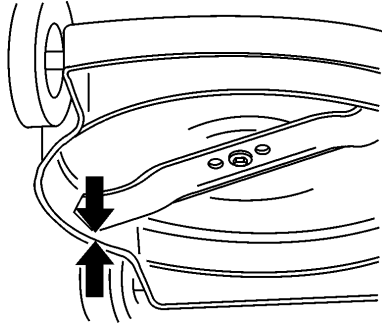

Figure 27
2. Measure the distance from the bottom edge of the mower housing to the blade tip (Fig. 27). Rotate the blade 180° and measure to other blade tip.